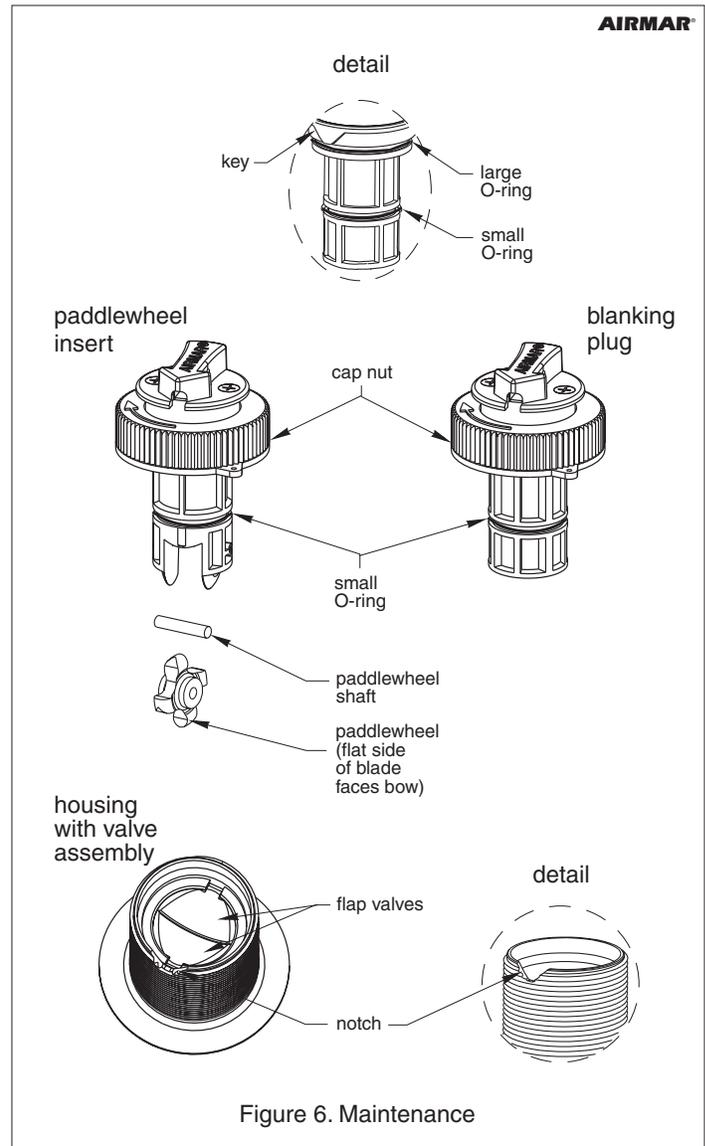

Figure 6. Maintenance
The sensor incorporates a self-closing valve which minimizes the flow of water into the boat when the paddlewheel insert is removed. The curved flap valves are activated by water pressure. Water pushes the flap valves upward to block the opening, so there is no gush of water into the boat (see Figure 6).
1. Inspect the O-rings on the blanking plug (replace if necessary) and lubricate them with the silicone lubricant supplied or petroleum jelly (Vaseline®) (see Figure 6).
3. To remove the paddlewheel insert from the housing, unscrew the cap nut. This will jack the insert out of the housing. Do not unscrew the screws. Replace the paddlewheel insert with the blanking plug. Seat it into place with a pushing twisting motion until the key fits into the notch in the housing. Screw the cap nut in place and **hand-tighten only**. Do not over tighten (see Figure 6).
1. Using the new paddlewheel shaft, push the old shaft out about 6mm (1/4"). With pliers, remove the old shaft (see Figure 6).
4. Install one large and one small O-ring (see Figure 6 detail).